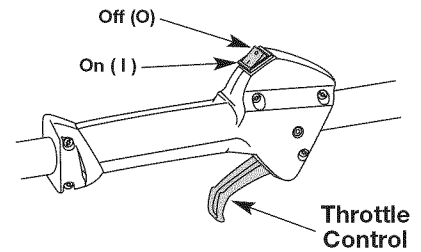

Fig. 13
NOTE: There is no need to turn the unit on. The On/Off Control is in the ON (I) position at all times (Fig. 13).
2. Press and hold the On/Off Control in the OFF (O) position until the engine comes to a complete stop (Fig. 13).
- NOTE:** There is no need to turn the unit on. The On/Off Control is in the ON (I) position at all times (Fig. 13).
- Press and hold the On/Off Control in the OFF (O) position until the engine comes to a complete stop (Fig. 13).